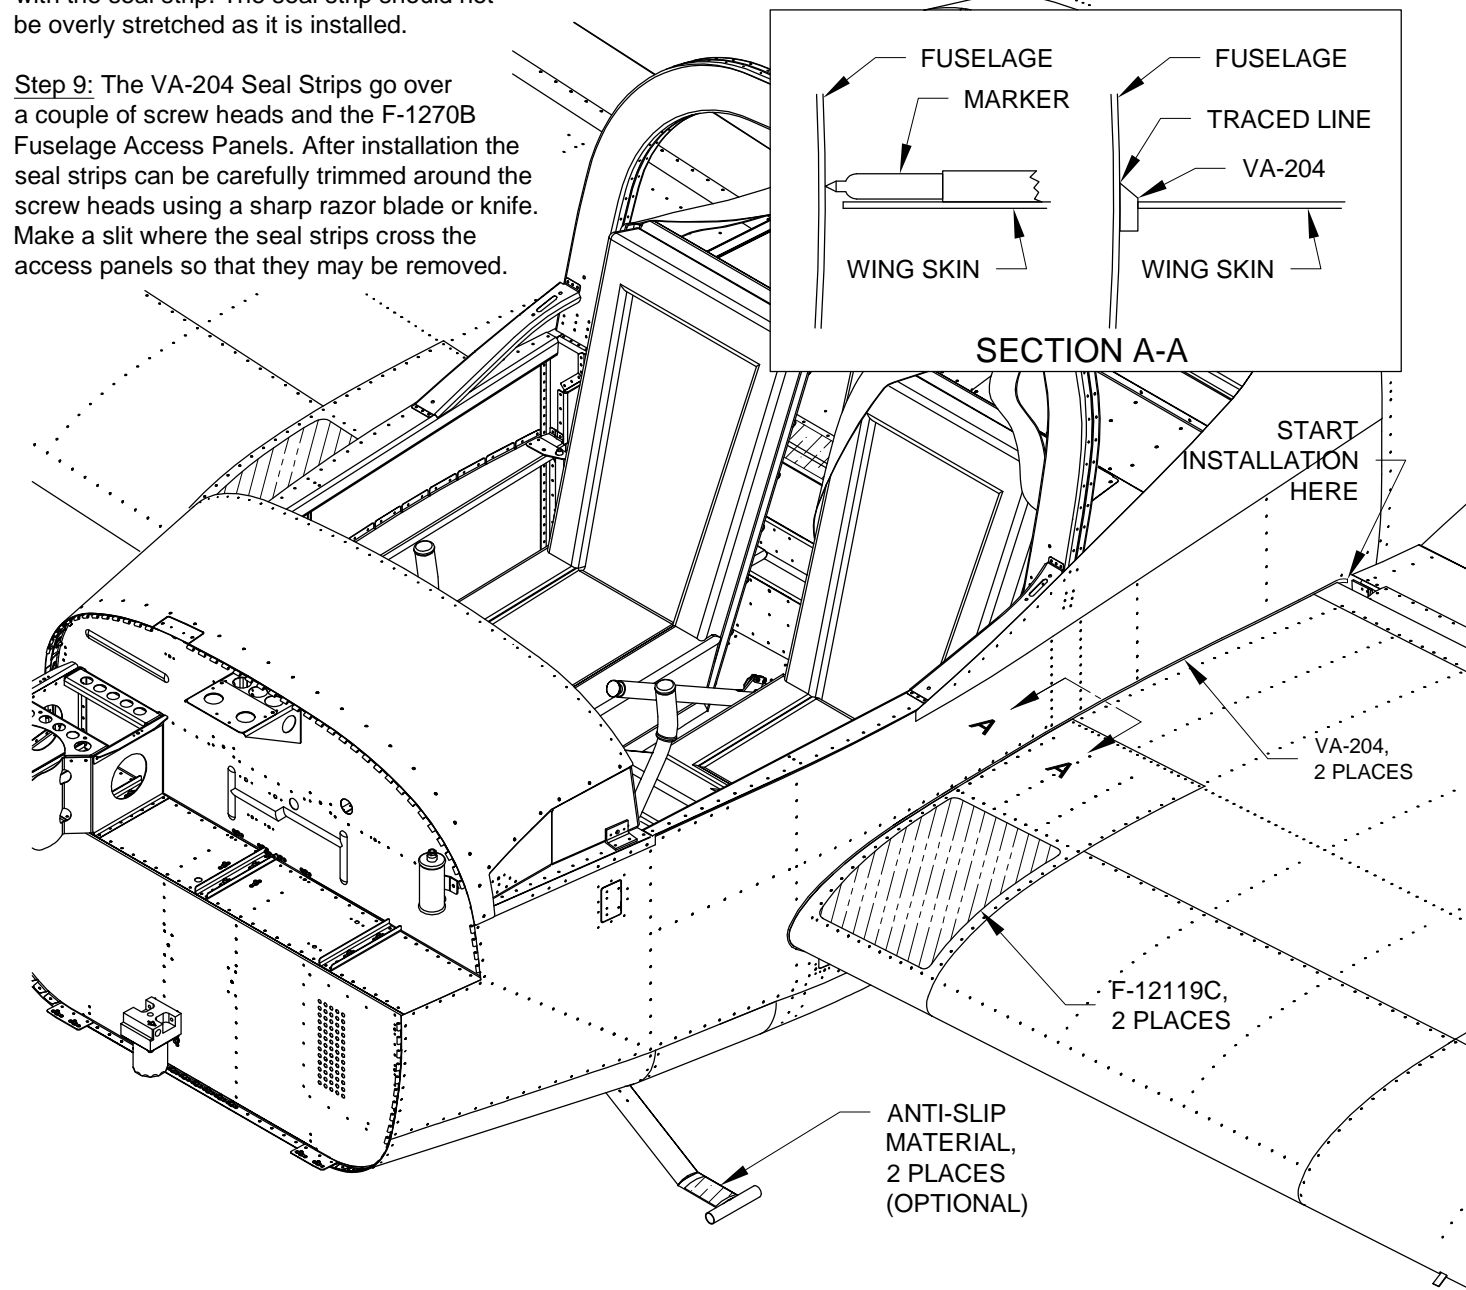

FIGURE 3: WING WALK AND STEPS
Step 5: Apply F-12119C Wing Walk to the wing surface as shown in Figure 3.
Step 6: Apply anti-slip material (approximately 2 inches X 3 inches is needed) to the steps as shown in Figure 3.
Step 7: With the wings installed, take a ultra-fine felt tip marker and, holding the pen body flat against the wing skin, outline each wing, top and bottom, on the side of the fuselage. See Figure 3 Section A-A. To avoid a bumpy outline on the fuselage, mark only between where the rivets on the wing are. This should produce an outline approximately 1/4 inch outside of where the wing meets the fuselage. Make a mark at the top and bottom skins trailing edges to show where the seal starts and ends. Remove the wings. Step 8: Align the beveled edge of the VA-204 Seal Strip with the outline traced on the side of the fuselage so that it just covers the line as shown in Figure 3 Section A-A. Care should be taken to make a smooth curve with the seal strip. The seal strip should not be overly stretched as it is installed.